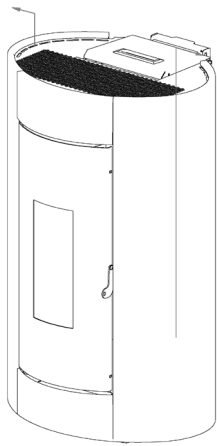

Fig. 59 - Remove side panels
- Unhook the side panels from low to high (see **Fig. 59**).